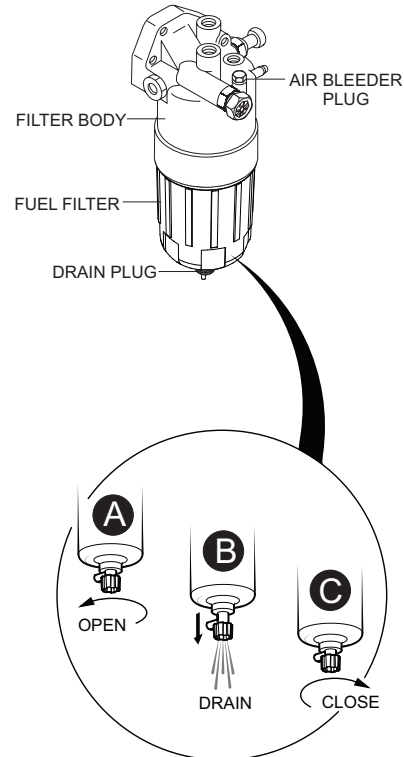

Figure 69. Draining The Fuel Filter
1. Loosen the air bleeder plug (Figure 69) on the fuel filter body.